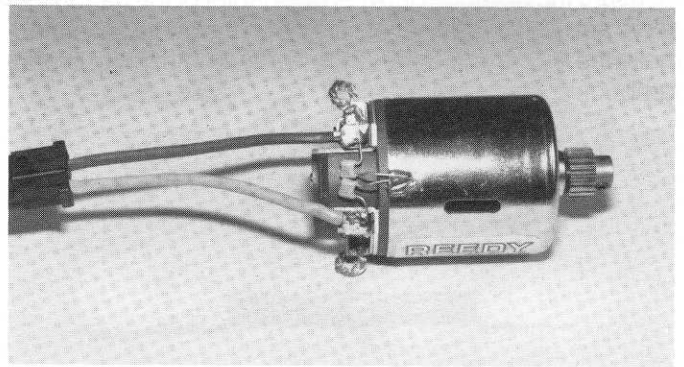

Fig. 138
□ **Figs. 138 & 139** Time to put the horsepower in the car. This kit does not come with a motor. We highly recommend REEDY motors. You will have to pick up the motor, motor mounting screws, and the correct pinion from your local dealer. You will need to solder on the motor lead wires and filter capacitors to the motor according to the instructions included with the motor and/or speed control. Make sure that you are using ROSIN core solder to make your electrical connections. Your dealer should be able to recommend the correct pinion for the motor you decide to run. We no longer can recommend a pinion gear because of the wide range of pinion sizes used, even on stock motors, due to some of the improved performance in motors. As a starting point, the end of the pinion should be even with the end of the motor shaft.